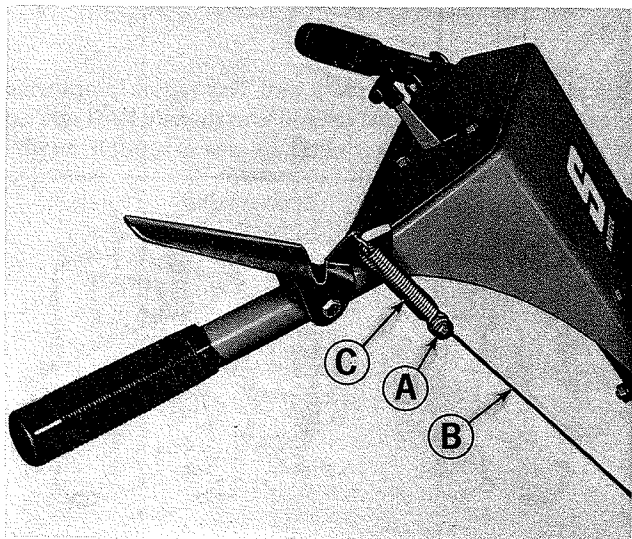

Figure 9. Forward drive clutch adjustment.
See figure 9. To tighten the forward clutch loosen set screw (A), and push wire (B) further up into spring (C). To place less tension on the forward drive clutch, pull wire (B) out of spring (C) slightly. Tighten set screw (A) to hold wire (B) in